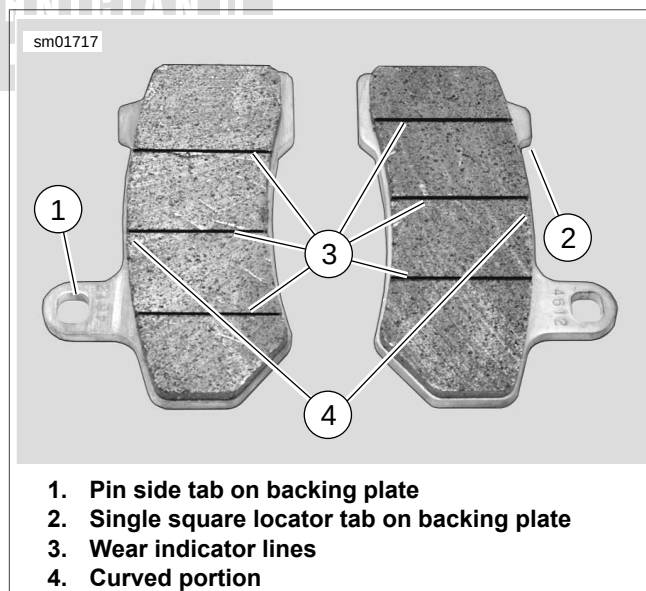

Figure 1-31. Brake Pad Orientation
See Figure 1-31. Replace brake pads if brake pad friction material on either the front or rear caliper is worn to service limit (wear indicator lines no longer visible). Always replace both pads in a caliper as a set.
7. See Figure 1-31. Install **new** brake pads using the same orientation as the pads previously removed. Curved portion of pad must face upward. Insert square locator tab first and then pivot pin side tab upward until pad seats.